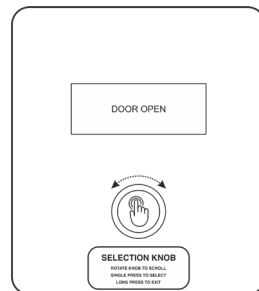

Fig. No. 27.1
- **DOOR CHECK** (Ref. Fig. No. 27.1)